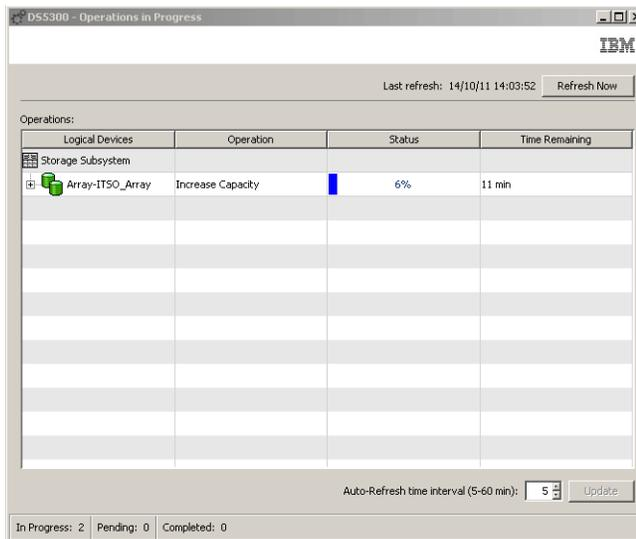

Figure 4-31 Checking Operations in progress
4. For checking the status of the task (increasing drive size) go to the **Storage Subsystem** → **View** → **Operation in progress** as shown in Figure 4-31.